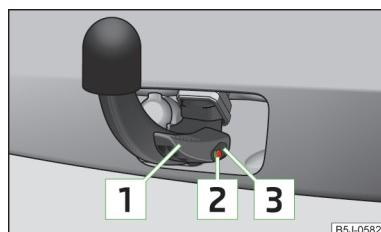

Fig. 121
- ✓ Lever is up as far as it goes Fig. 121.